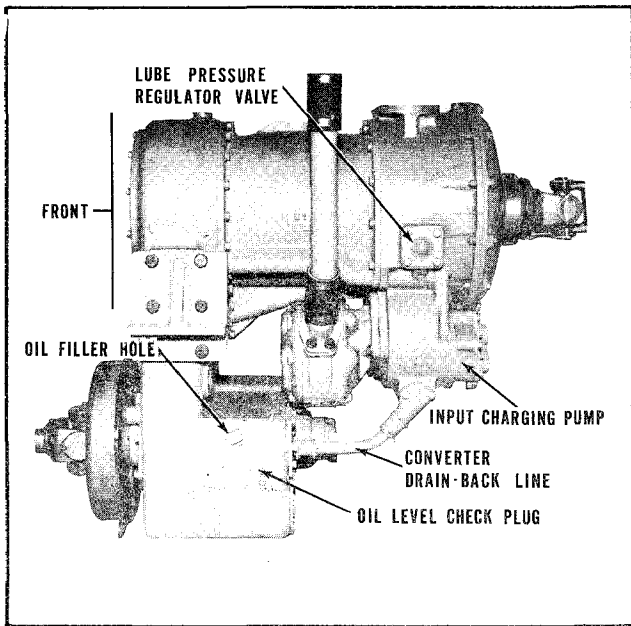

FIG. 18 – TRANSMISSION (LEFT SIDE)
The oil level plug and the oil filler line are provided in the left wall of the oil sump (Fig. 18). The oil level must be checked every 10 hours of operation by removing the level plug. Make sure the machine is setting level before checking oil level. As a safety precaution, two oil level checks must be made as follows:
3. Ordinarily the converter "out" pressure reading is not required during operation – thus no gauge is provided on the instrument panel. It is specified at 25 P.S.I. minimum at full throttle, converter stall; and 65 P.S.I. maximum at full throttle, no load. The reading, if required, may be obtained by installing a pressure gauge in place of the converter "out" temperature sender, located at the converter check point (refer to Fig. 18). CAUTION: *DO NOT STALL CONVERTER LONGER THAN 30 SECONDS AT A TIME WHEN OBSERVING THIS PRESSURE.*